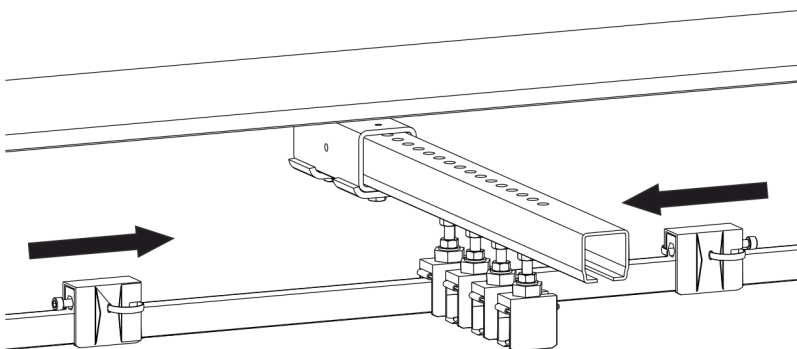

Fig. 94: Slide the anchor point clamps 0812 onto the hanger clamp
- Slide the anchor point clamps up to the hanger clamp (see Fig. 94).